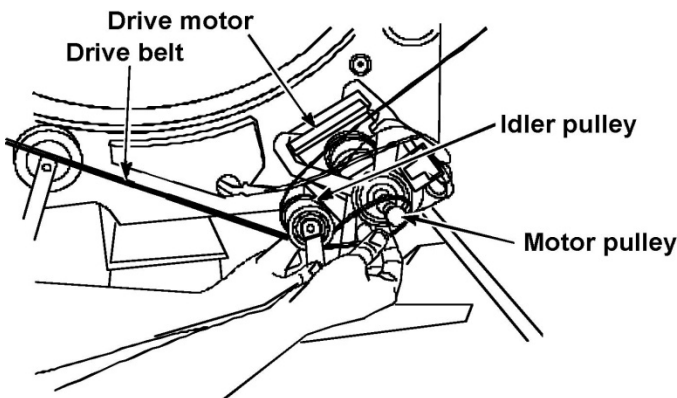

FIGURE 2
- Remove drum belt by lifting idler pulley upward and sliding belt off of motor pulley. Remove drum from cabinet. See *Figure 2*.